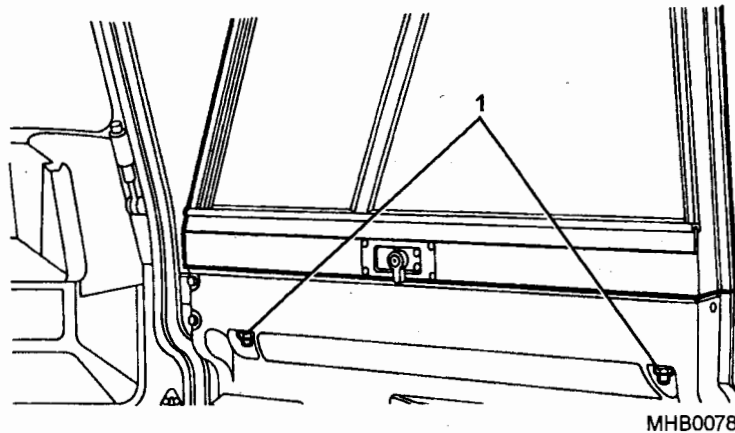

Fig 18 Door glass panels
47 The removal of the upper door frame is achieved by removing the nuts and washers (Fig 18 (1)) from the studs securing the panel to the lower door and lifting the glass panel clear. Refitting is the reverse of the foregoing.